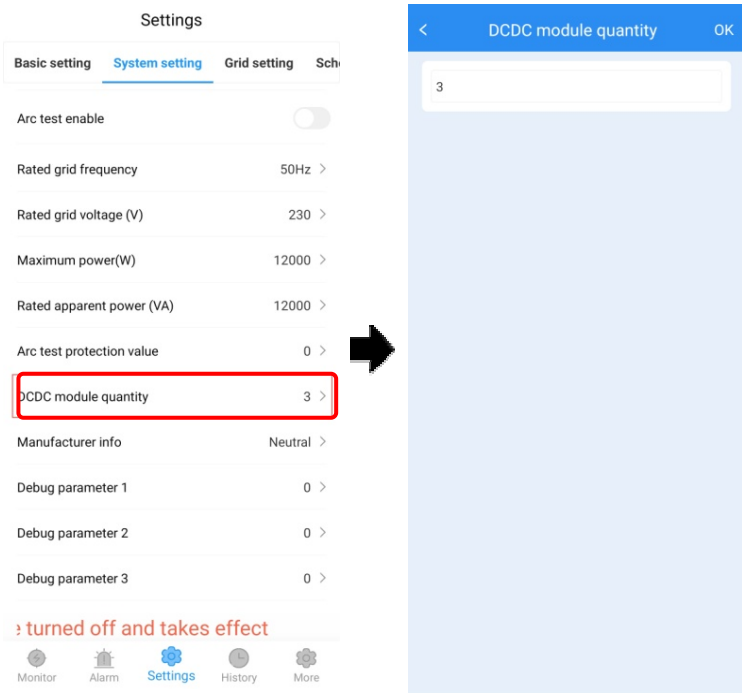

Figure3-39 Set DCDC module quantity
Step 1 Set the quantity of DCDC module in "**Settings-System setting**" page, as shown in Figure3-39.